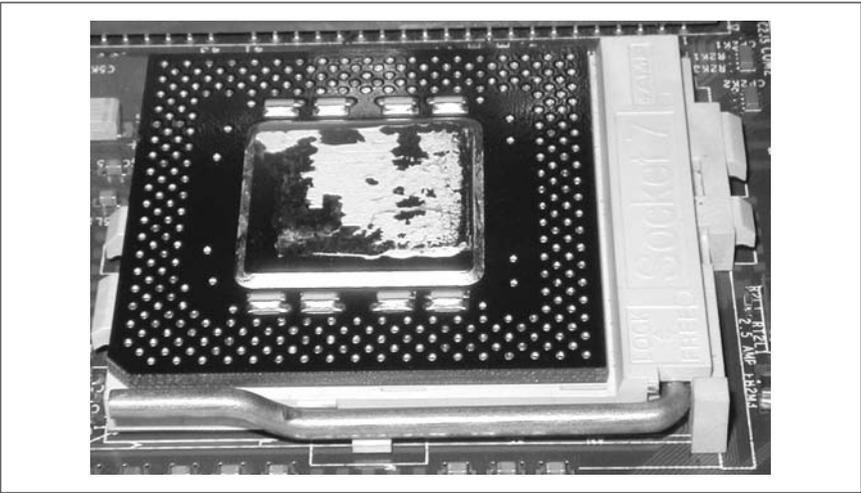

Figure 4-15. The ZIF lever pressed down and locked into place
4. Once the processor is fully seated, press the ZIF lever down until it is parallel to the edge of the socket, as shown in Figure 4-15. This locks the processor into the socket and makes electrical contact on all pins.